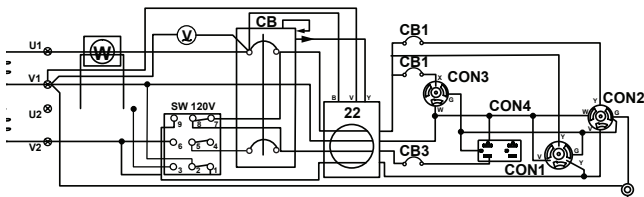
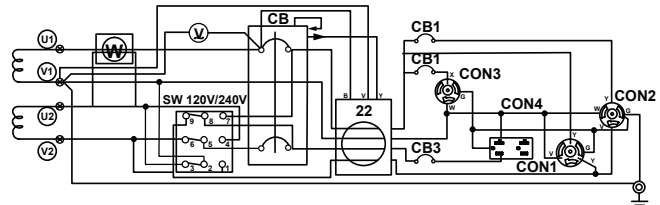

Figure 8. 120V Full Power Switch Simplified Diagram (Up Position)
Figure 9. 240/120V Full Power Switch Simplified Diagram (Down Position)
35. **Full Power Switch** — The generator is provided with a full power switch. See Figure 8 and Figure 9 for simplified wiring diagrams of the dual voltage system.